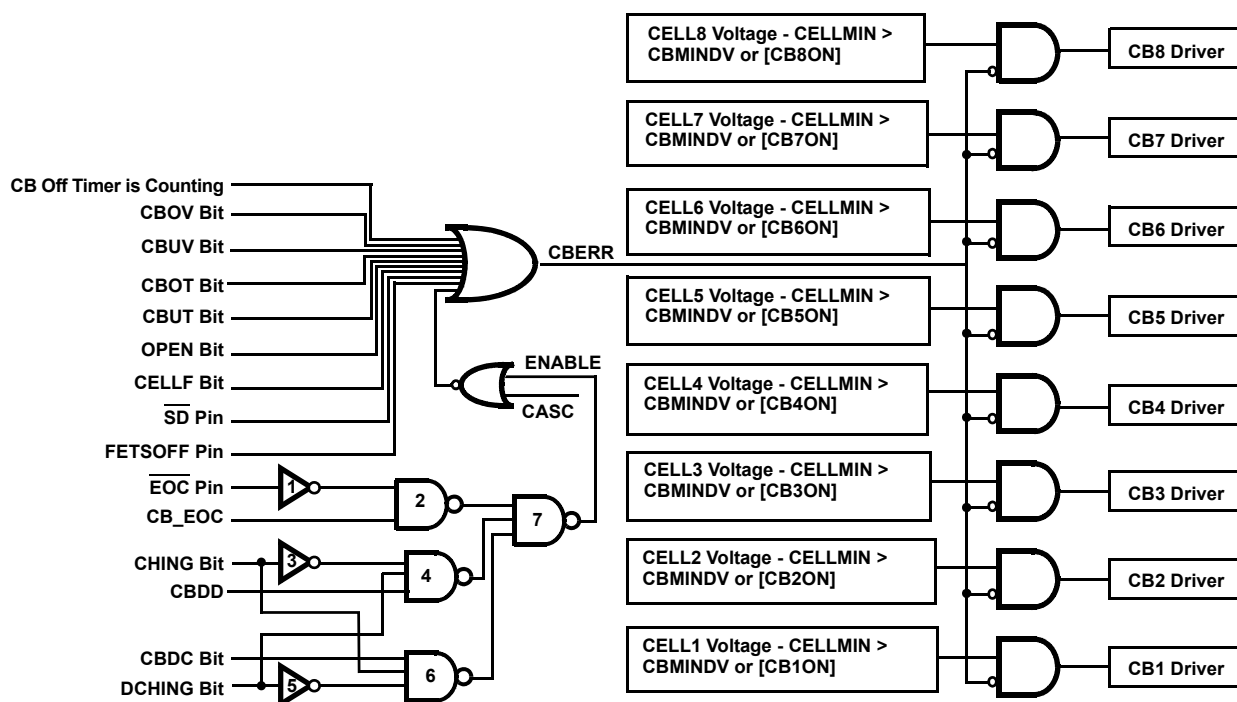

Figure 62. Cell Balance Operation
- Any combination of the CBDD, CBDC, and CB_EOC bits can be used to enable or disable balancing in one, two, or all three of the possible cell balance conditions (charging, discharging and end-of-charge, see Figure 62 and Table 77).